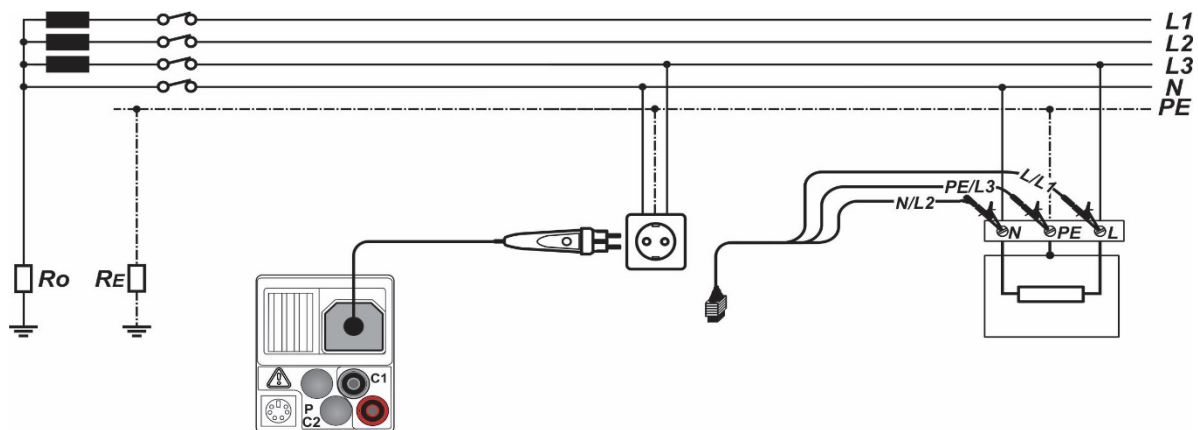

Figure 5.24: Connection of the optional "Commander" test plug (044149) and the three-wire test cable
- ❑ Connect the test cables to the test object (see figure 5.24).